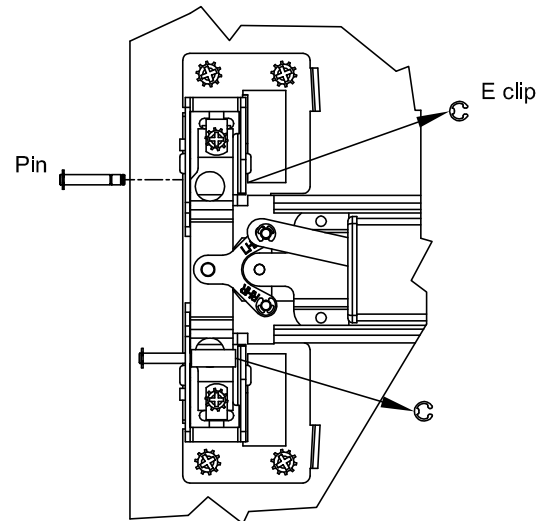

Fig. 10
3. (Fig 10.) Remove the E-Clips from one end of pins. Pull pins out (if installed). Pins and clips do not need to be re-installed.